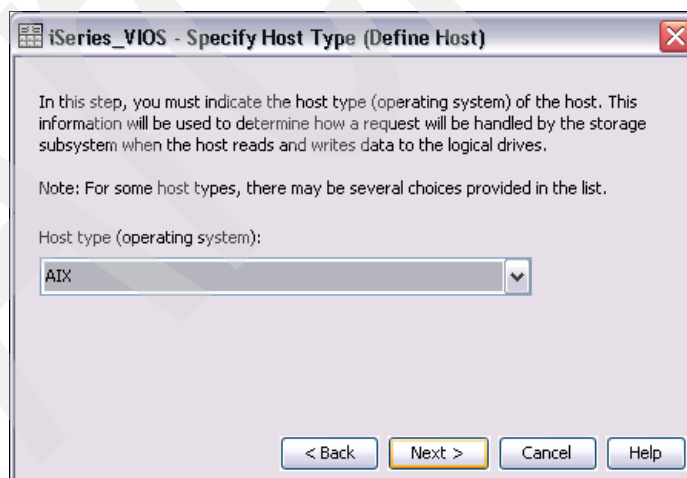

Figure 7-69 DS Storage Manager Specify Host Type (Define Host) dialog
10. For our VIOS partition we choose **AIX** as the host type and click **Next**, as shown in Figure 7-69.